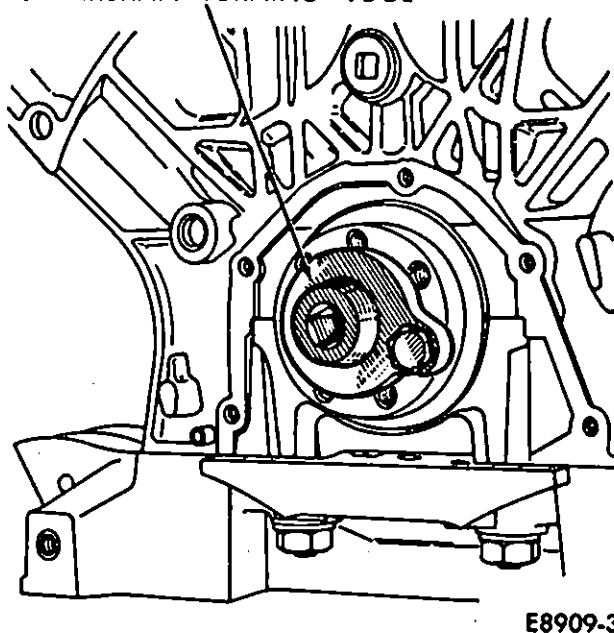

Fig. 3—Crankshaft Turning Tool 6072
- (1) With the crankshaft rear main seal housing removed, install crankshaft turning Tool 6072 at the flywheel end of the crankshaft (Fig. 3).